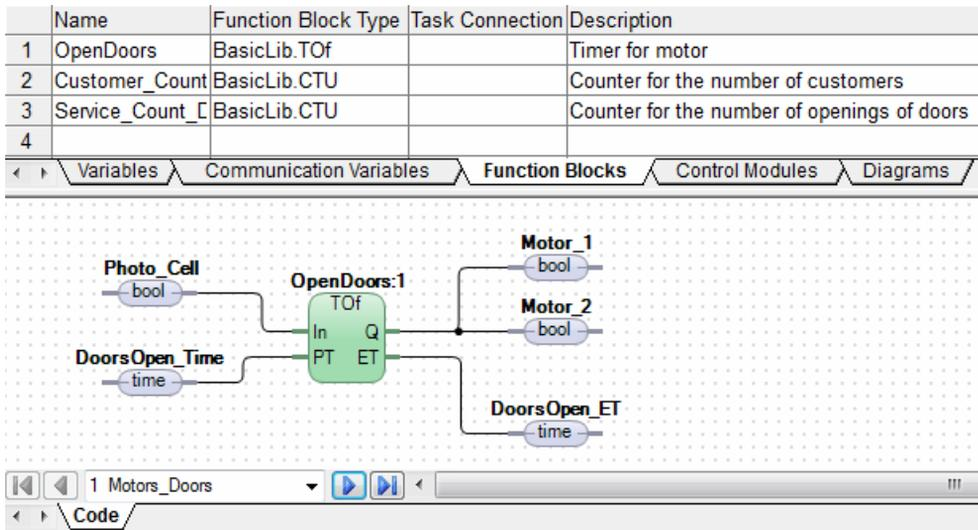

Figure 27. Variable connections to OpenDoors Function Block
4. Insert the variables **Motor\_1** and **Motor\_2** using any of the methods. The variable **DoorsOpen\_ET** is already present in the grid area. Connect these three variables to the parameters as in Figure 27.
The output Q parameter is a Boolean signal, which represents the status on the door position (open or closed) and is passed on to the motors. For both doors to open, the Q signal must be passed to both motors. The variables Motor\_1 and Motor\_2 are connected as in the Figure 27.